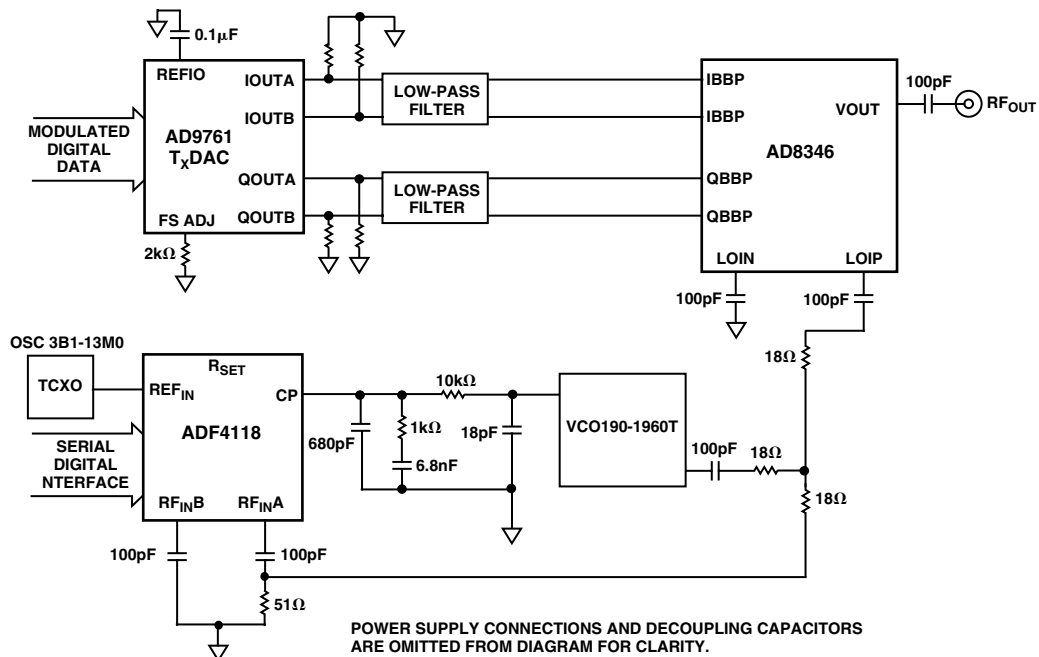

Figure 28. Direct Conversion Transmitter Solution
In some applications a direct conversion architecture can be used in base station transmitters. Figure 28 shows the combination available from ADI to implement this solution.
The Local Oscillator (LO) is implemented using the ADF4117/ADF4118. In this case, the OSC 3B1-13M0 provides the stable 13 MHz reference frequency. The system is designed for a 200 kHz channel spacing and an output center frequency of 1960 MHz. The target application is a WCDMA base station transmitter. Typical phase noise performance from this LO is -85 dBc/Hz at a 1 kHz offset. The LO port of the AD8346 is driven in single-ended fashion. LOIN is ac-coupled to ground with the 100 pF capacitor and LOIP is driven through the ac-coupling capacitor from a 50 Ω source. An LO drive level of between -6 dBm and -12 dBm is required. The circuit of Figure 28 gives a typical level of -8 dBm .
The RF output is designed to drive a 50 Ω load but must be ac-coupled as shown in Figure 28. If the I and Q inputs are driven in quadrature by 2 V p-p signals, the resulting output power will be around -10 dBm .